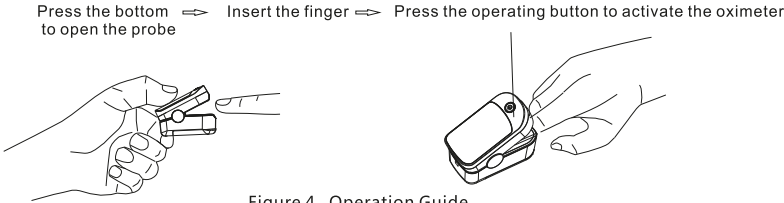

Figure 4. Operation Guide
B. Hold the oximeter with the display facing toward you, slide your finger into the opening probe of the device, as shown below (Figure 4), until the fingertip touches the built-in stop guide. For best results, make sure the finger is centered within the finger guide.